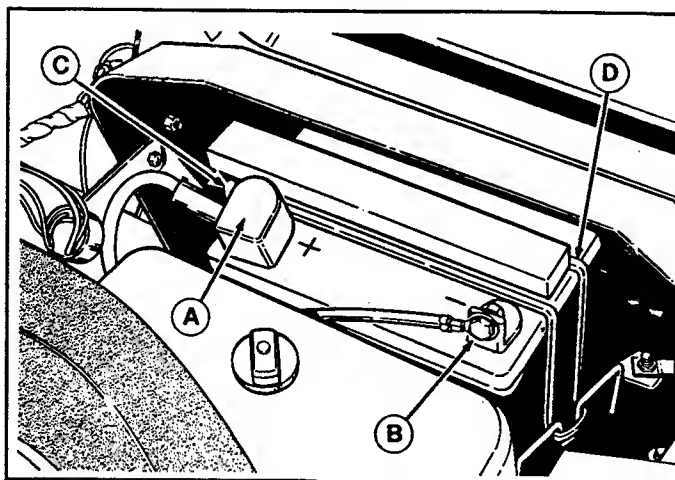

Figure 19. Battery
1. Disconnect the cables from the battery, negative cable first (B, figure 19).